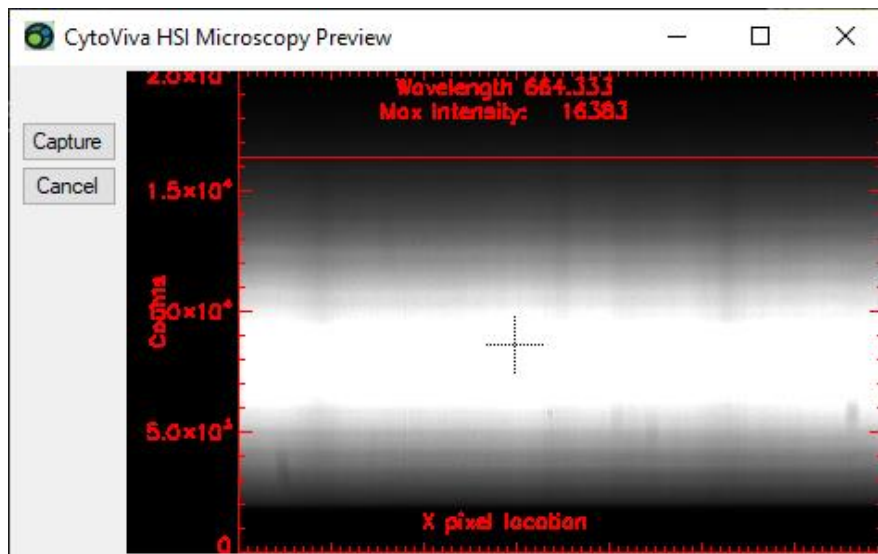

Figure 2.1c
- Preview HSI: CytoViva HSI Microscopy Preview Window - Figure 2.1c.
- The CytoViva HSI Microscopy Preview window will open (Figure 2.1c). This information is used to: